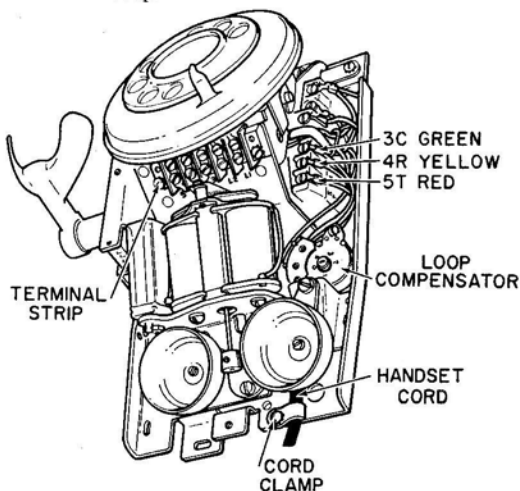

Figure 25.
When the telephone housing has been removed (figure 25), the "loop compensator" will be found attached to the base-plate of the telephone. The "loop compensator" is a combined rheostat-and-switch. It can be set with the tip of a small screwdriver. As the arrow is turned counterclockwise from 0 to 4, the rheostat inserts 0Ω to 400Ω in series with the loop.
*Because the open-wire line or open-wire line section, or the loaded cable, has less effective capacitance than has unloaded cable, the aim here is merely *not* to close the switch mentioned on page 20, just below figure 25.